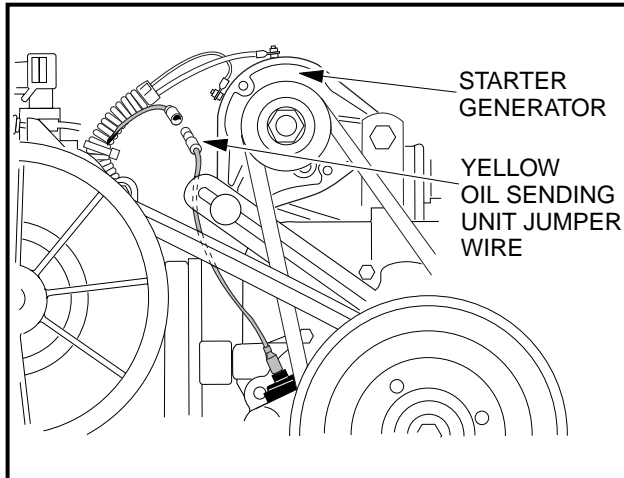

Figure 16-94 Oil Level Sensor Jumper wire
23. Connect the oil level sensor wire (18 gauge yellow) to the jumper wire (**Figure 16-94, Page 16-39**).